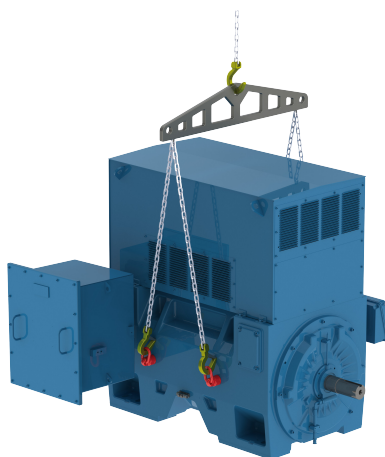

Figure 4.6: Lifting for W60 motors with parallel chains
- For W60 motors, as shown in Figure 4.6 on page 22, the use of a spreader beam is required for maintaining the lifting elements (chain or rope) in vertical position and thus preventing damage to the motor surface.